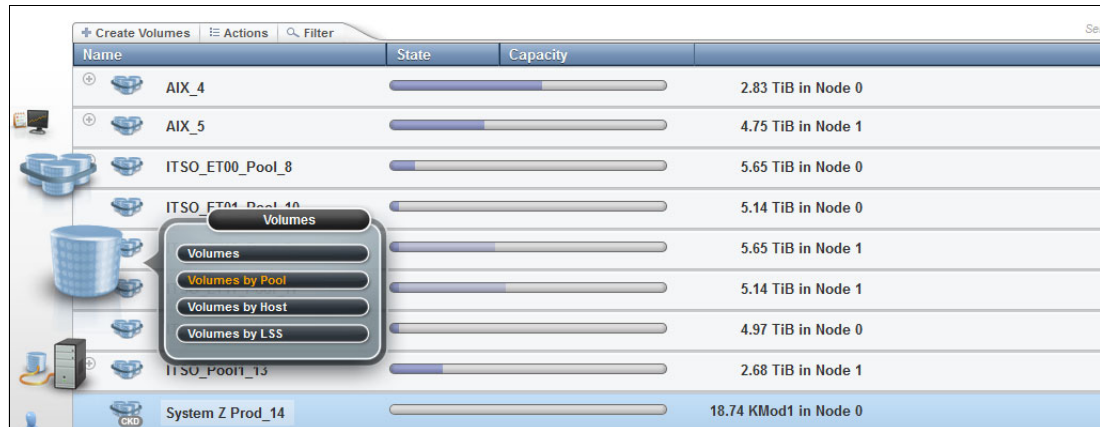

Figure 11-94 Select pools to add CKD volumes
1. Select the **Volumes** icon from the system page, then select **Volumes** or **Volumes by Pool** from the menu as shown in Figure 11-94.